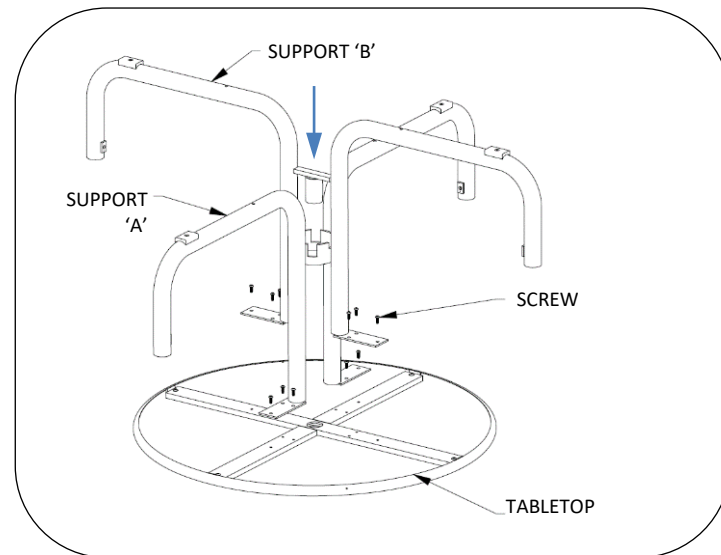

Fig. 2 – Four Seat table to support install
6. Hold table support "B" upside down and carefully lower it over support "A" so bar on "B" fits into notch on "A". Loosely fasten support "B" to table top, see Fig 2 or 4.